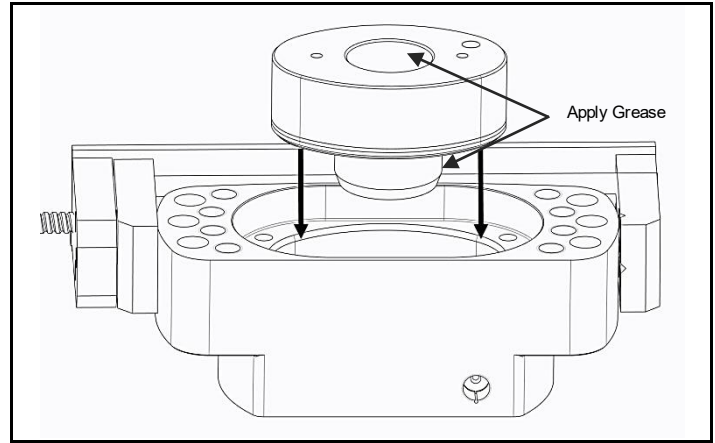

Fig. 4.9 Apply grease and install piston
- When sliding the piston assembly into the body, take care not to damage any of the internal surfaces. (Fig. 4.9)